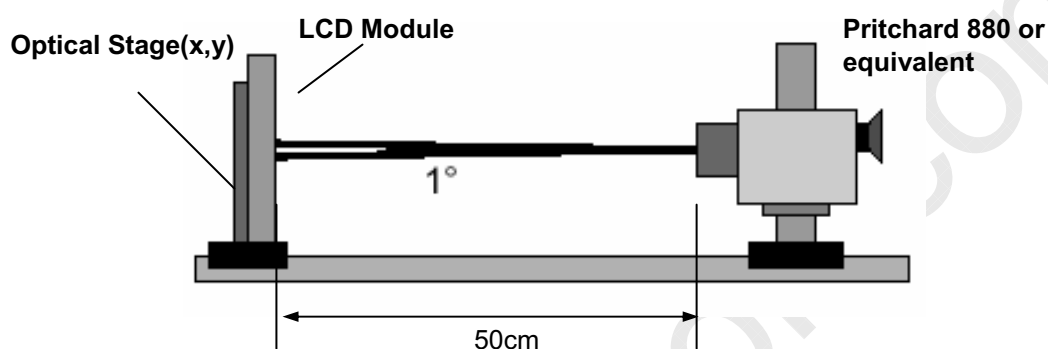

FIG. 10 Optical Characteristic Measurement Equipment and Method
FIG. 10 shows additional information concerning the measurement equipment and method.
2. Surface luminance is determined after the unit has been 'ON' and 1Hour after lighting the backlight in a dark environment at $25 \pm 2^{\circ}\text{C}$. Surface luminance is the luminance value at center 1-point across the LCD surface 50cm from the surface with all pixels displaying white. For more information see the FIG. 10.